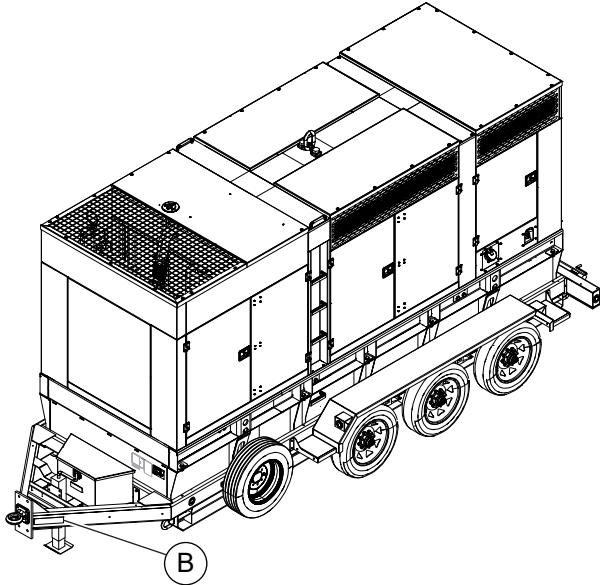

Figure 2-2. Unit ID and VIN Tag Locations
See Figure 2-2 The unit ID tag is located on the control panel face. The vehicle identification number (VIN) tag (B) is located on the drivers side of the trailer tongue. Important information such as the unit model number, serial number, VIN, and tire loading information are listed on the tags. Record the information from the tags in the event the tags are lost or damaged. This information may be required when ordering parts or requesting assistance.